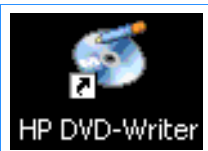

Figure 34 HP DVD-Writer Desktop Icon
- Double-click the **HP DVD-Writer** desktop icon (see Figure 34).